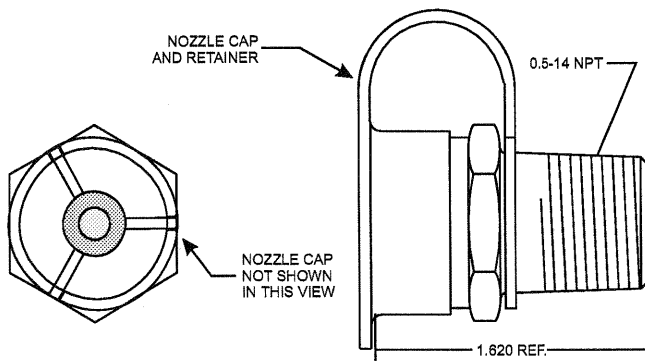
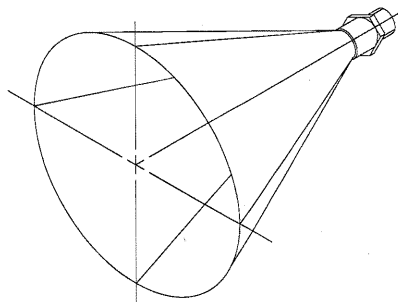

Figure 2-14. Cone Nozzle (P/N 844714)
Figure 2-15. Cone Nozzle Spray Pattern
The cone nozzle (P/N 844714) is made of steel and contains a 45° steel cone, causing the nozzle to disperse a cone-shaped spray of dry chemical. This nozzle has a polyethylene protective cap that is blown off by the dry-chemical discharge. Figure 2-14 shows the cone nozzle and cap. Figure 2-15 shows the nozzle and spray pattern.
- Cone Nozzle (Figure 2-14)